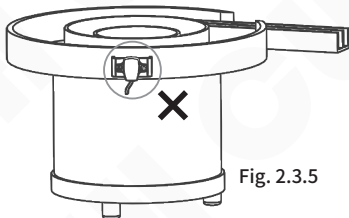

Fig. 2.3.5
- Not recommend installation method, As shown in Fig. 2.3.5 and Fig. 2.3.6.